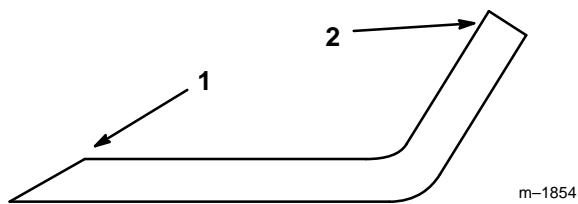
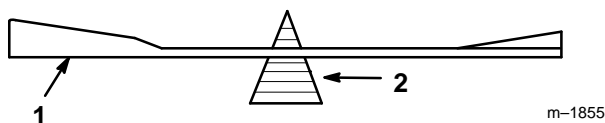

Figure 33
Figure 34
1. Use a file to sharpen the cutting edge at both ends of the blade (Fig. 33). Maintain the original angle. The blade retains its balance if the same amount of material is removed from both cutting edges.
2. Check the balance of the blade by putting it on a blade balancer (Fig. 34). If the blade stays in a horizontal position, the blade is balanced and can be used. If the blade is not balanced, file some metal off the end of the sail area only (Fig. 33). Repeat this procedure until the blade is balanced.